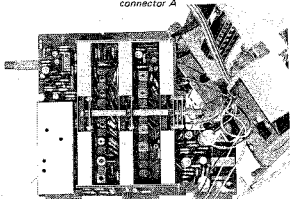

Fig. 2-9.
6. The removed circuit board is shown in Fig. 2-9.